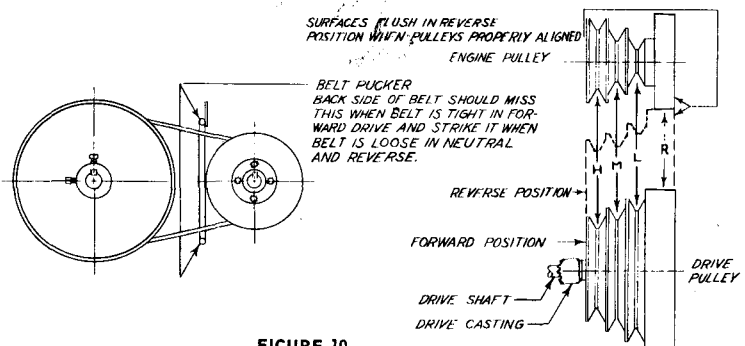

FIGURE 10
After moving belt make sure belt is between arms of belt pucker and that belt just misses the arms when engaged in forward position. See Figure 10.
Before adjusting the belt tightness check the engine and drive pulley alignment by pulling the shift lever into reverse position and looking at the front edge of the drive pulley and the reverse disc where they come together. They should be flush. (See Fig. 10). If they are not, bring flush by moving the engine pulley on the engine shaft (after checking to make certain drive pulley is tight against end of drive casting where it belongs.)
6. Check for belt contact with pucker as noted in Fig. 10. If not correct the pucker can be shifted by loosening the mounting bolts holding it to the engine and shifting it on its slotted holes.